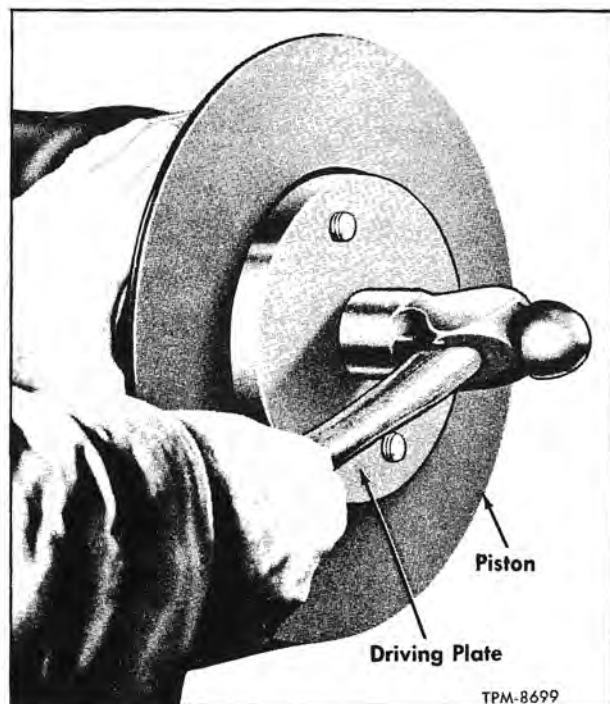

Figure 18—Removing Lower Retainer From Piston
4. In many instances it will be necessary to drive lower retainer out of bellows. A locally made driving plate installed over end of retainer will prevent damage to retainer as it is driven from piston, as illustrated in figure 18.